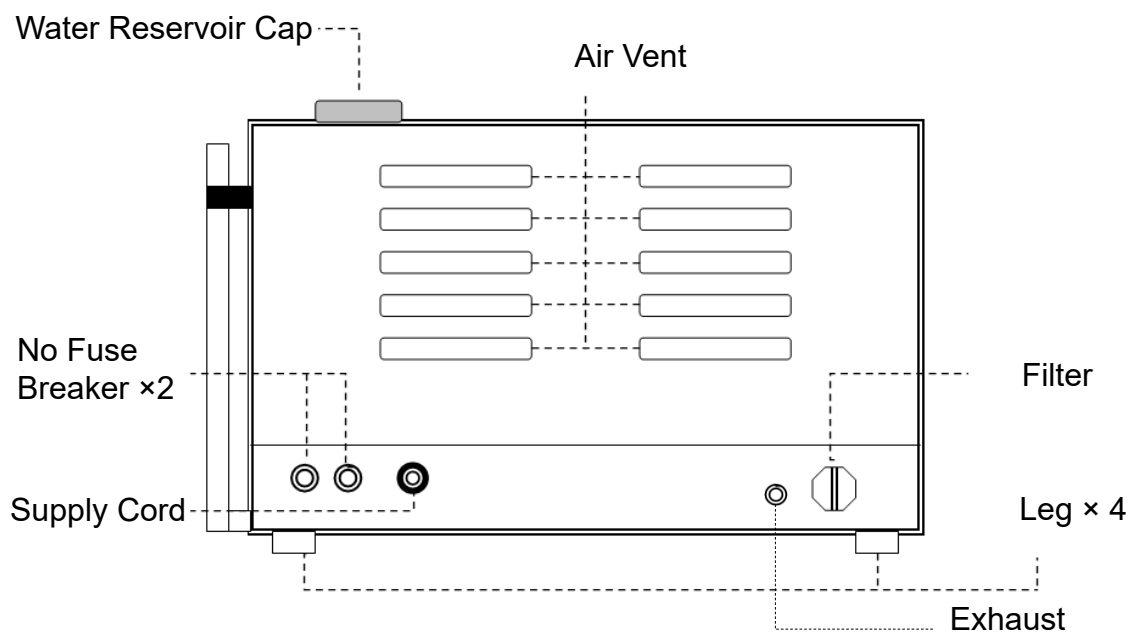

Figure 11 – Rear View
- Ensure the vent holes in the water reservoir cap (see “Figure 11 – Rear View”) are not blocked.